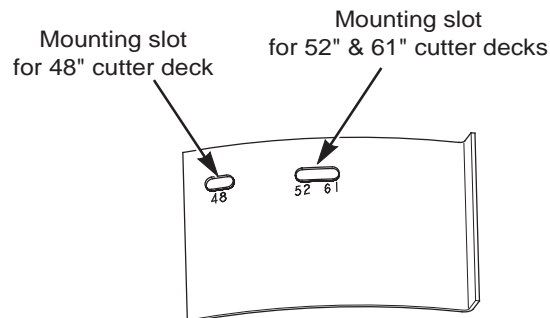
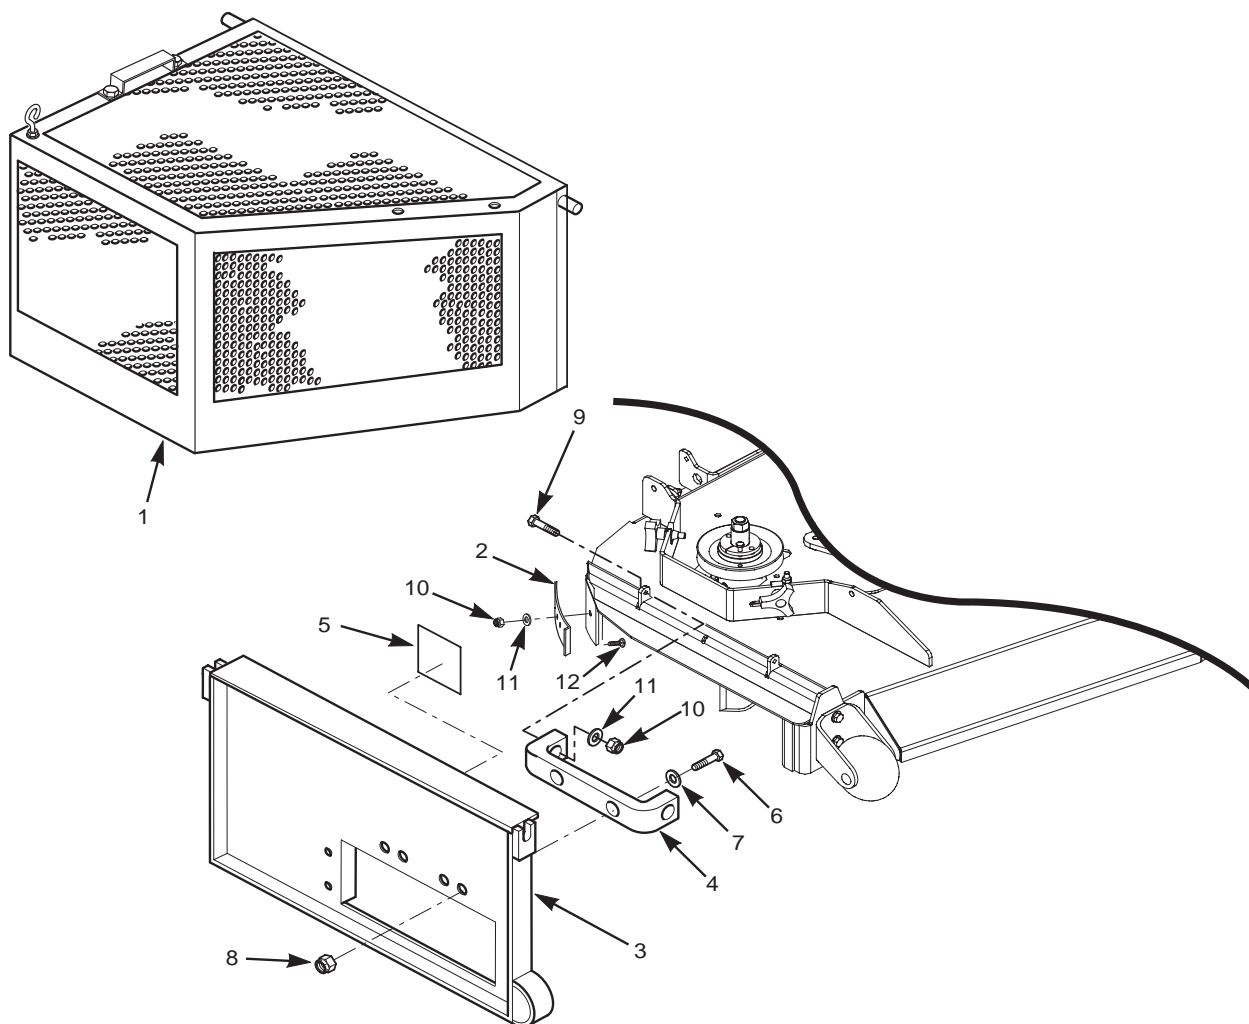

Figure 2. Filler Plate Installation for Velocity Plus Cutter Decks
Figure 4
3. Install the mounting bracket (item # 4, Figure 4) to the cover weldment (item # 3, Figure 4) and secure with the hardware provided. Do not tighten the hardware.
*There are two (2) mounting brackets included with this grass catcher.
4. Install the grass catcher filler plate (item # 2, Figure 4, page 6) as shown In Figure 4. There are two (2) mounting slots in the grass catcher filler plate. Reference Figure 2 below for the correct mounting slot for the deck size this catcher will be mounted on. Secure using the hardware provided and tighten.
5. Install the grass catcher cover assembly to the discharge mounting area. The grass catcher cover assembly must be installed as shown in Figure 4. Secure the grass catcher cover assembly to the discharge chute mounting area using the hardware provided.